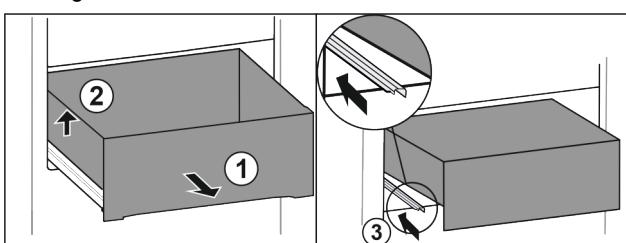

Fig. 86
- Pull out drawer as far as it will go. Fig. 86 (1)
- Lift drawer on the left. Fig. 86 (2)
- Insert left rail. Fig. 86 (3)